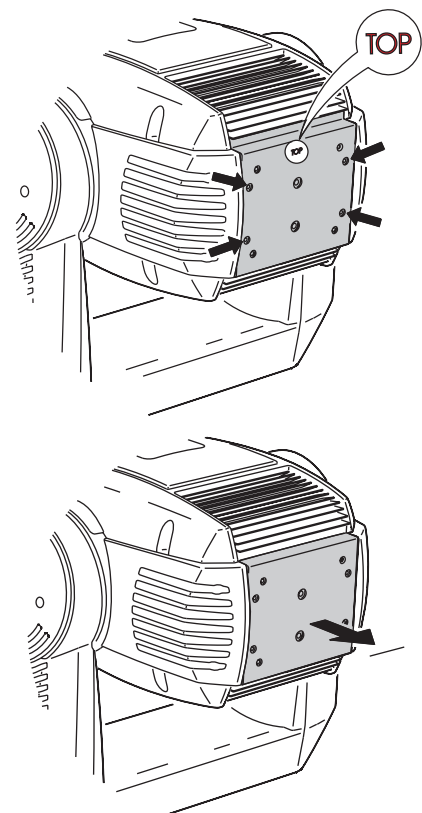

Figure 9: Lamp access
- 2 See Figure 9. Release the 4 quarter-turn fasteners marked with arrows on the rear plate. Pull the lamp assembly straight back as far as it goes and let it rest in place.